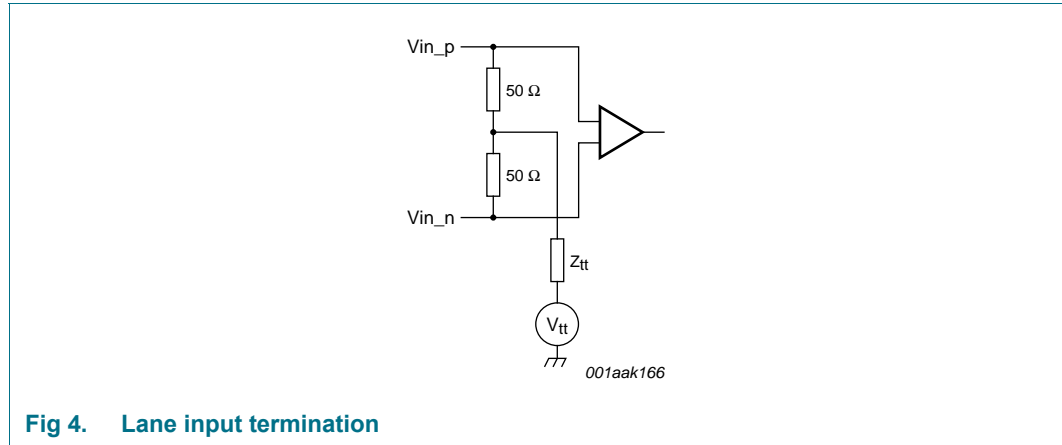

Fig 4. Lane input termination
- [5] Vin_p and Vin_n inputs are differential CML inputs. They are terminated internally to V_{tt} via 50 Ω (see Figure 4).